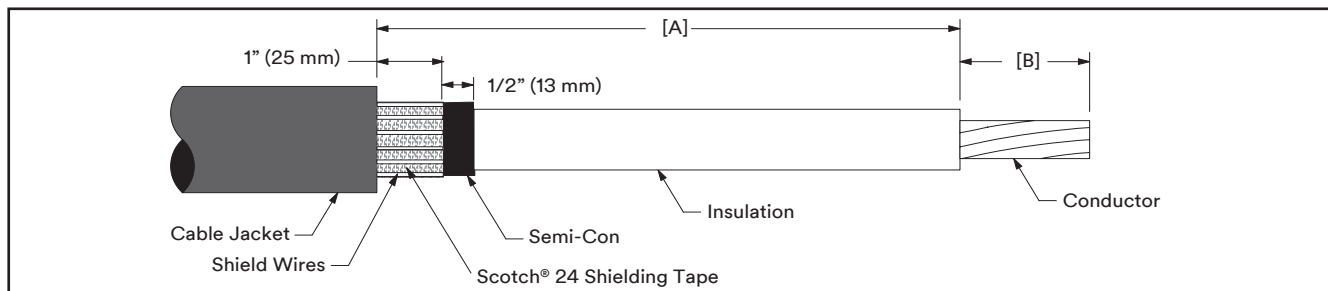

Figure 9
8.2 Remove jacket as shown in *Figure 9* and *Table 3*. **BE SURE TO ALLOW FOR DEPTH OF TERMINAL LUG Dimension [B] and see the NOTE below concerning Aluminum Lug and Connector growth allowances.**
8.3 Wrap 2 full wraps of Scotch® Electrical Shielding Tape 24 over shielding wires at jacket edge. Cut off excess Scotch® 24 Shielding Tape (*Figure 9*).
8.4 Bend shielding wires back over Scotch® Electrical Shielding Tape 24 and cut off excess at jacket edge (*Figure 9*).
8.5 Remove cable semi-con as shown in *Figure 9*.